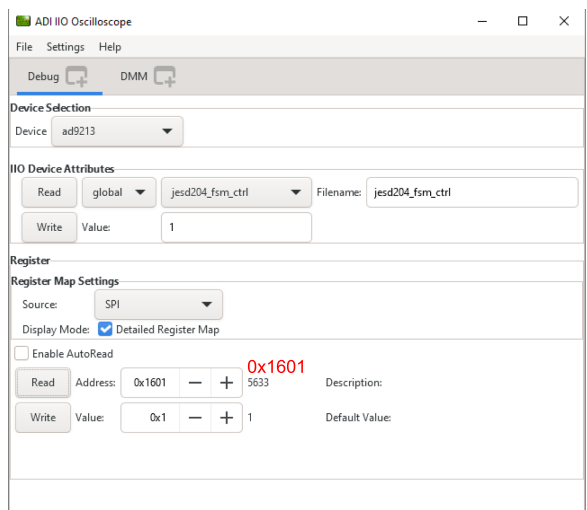

Figure 19. Register Settings for the AD9213 High-Speed Path Register 0x1601
- **ad9213** Register 0x1601 set to 0x01, as shown in Figure 19.